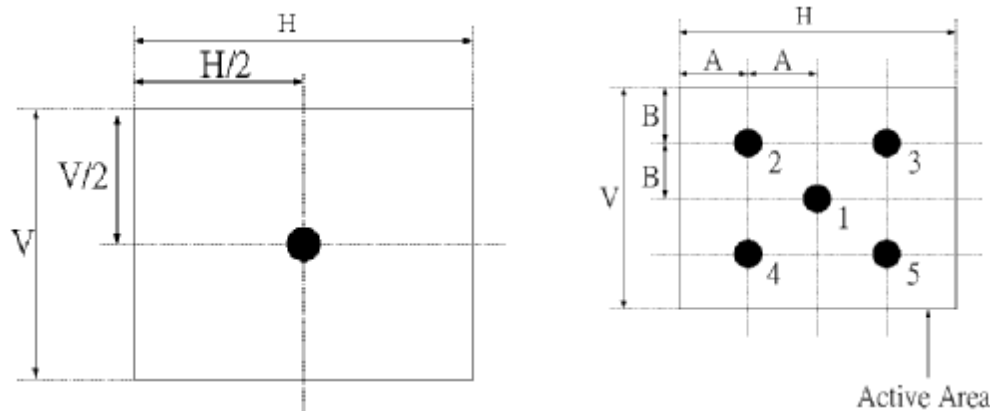

Fig.4-2 Optical measurement point
3. Surface luminance is luminance value at point 1 across the LCD surface 50cm from the surface with all pixels displaying white. From more information see FIG 4-2. When $I_{BL} = 6.5\text{mA}$, $L_{WH} = 450\text{cd/m}^2$ (typ.) $L_{WH} = L_{on1}$, Where L_{on1} is the luminance with all pixels displaying white at center 1 location.